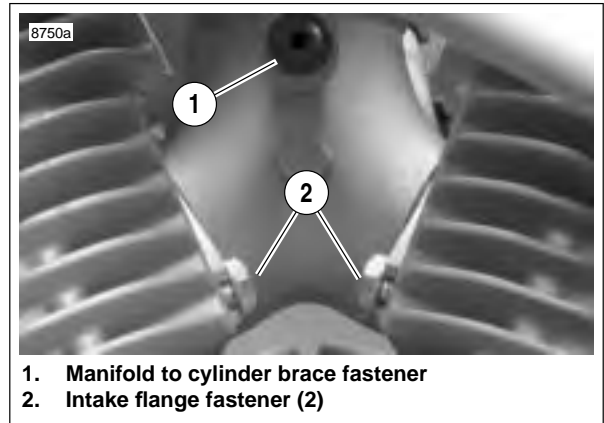

Figure 4-112. Intake Manifold (primary side)
- a. See Figure 4-112. On primary side, loosen but do not remove the two front and rear intake flange fasteners (2).
- b. Remove fastener (1) holding manifold to cylinder brace.
- a. See Figure 4-112. Slide the assembly toward installed position. Manifold should slide over fasteners (2) on primary cover side of engine.
4. See Figure 4-112. Install fastener holding manifold to cylinder brace and tighten to 90-120 **in-lbs** (10-13.6 Nm).